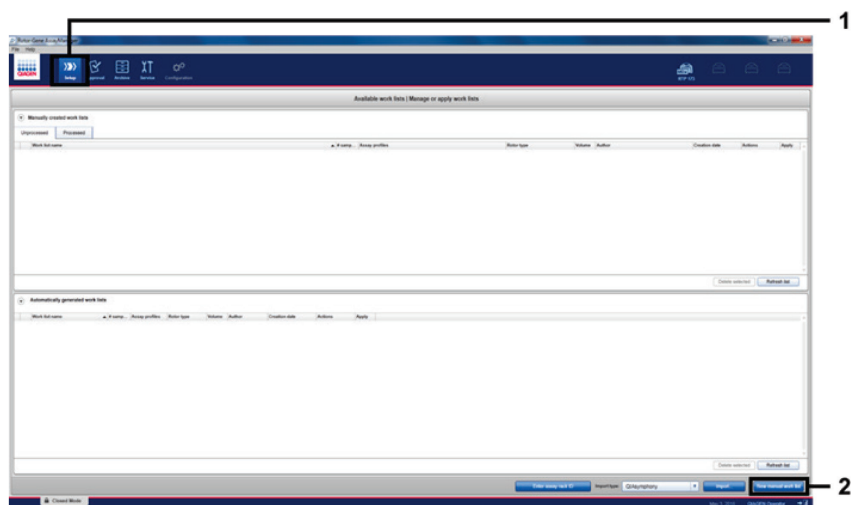

Figure 6. Setting up new manual work list. 1 = Select "Setup" environment, 2 = "New manual work list".
2. The Setup environment appears by default. Click **New manual work list** to create a new work list (Figure 6).